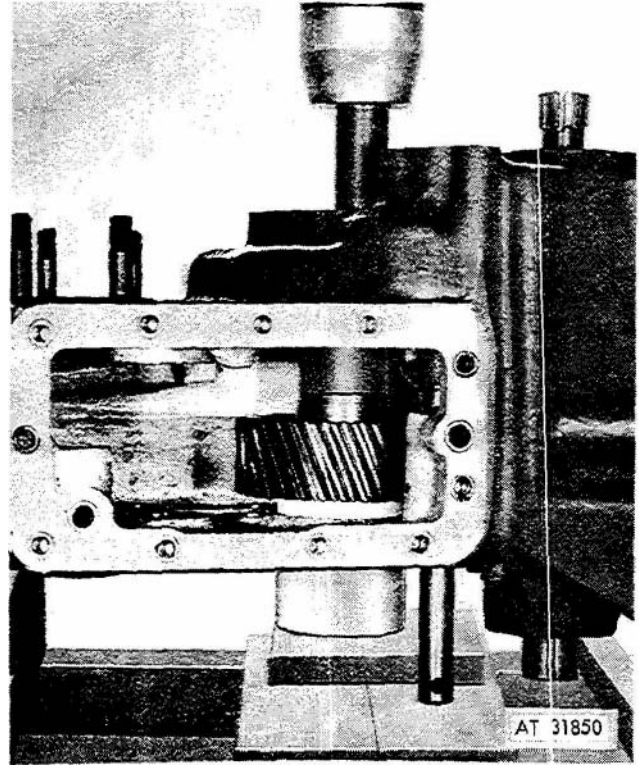

Figure 3-54. Pressing intermediate shaft from transfer case.
(21) Position transfer case in press and position a suitable hollow adapter, with an opening large enough for bearing (35) to pass through, against high speed gear (43). Press intermediate shaft (46) from transfer case (fig 3-54).